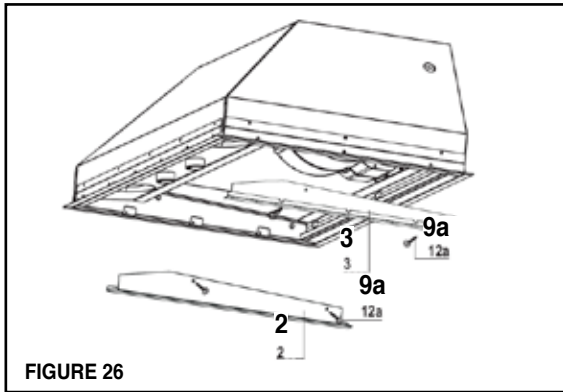

FIGURE 26
1. Use a drill to install side rails on the inside rangehood walls to line the inside hood wall with stainless, 2 and 3 in FIGURE 26 with 9a. screws, 4 screws total.